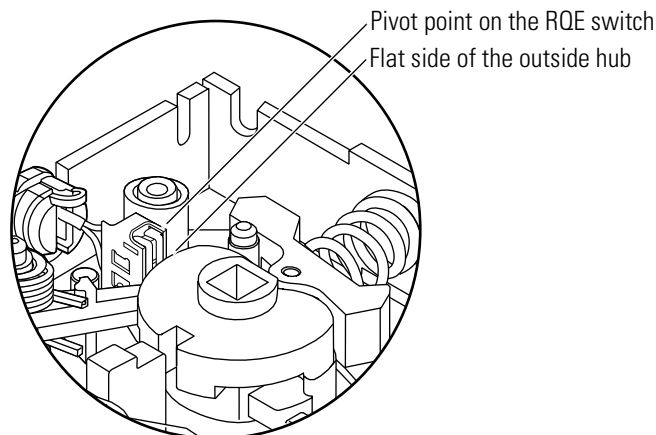

Figure 4.16 RQE switch and hub orientation (close-up)
4. Make sure that the RQE switch components have the correct orientation. When installed, the pivot point on the RQE switch should be opposite the flat side of the outside hub, as shown in Figure 4.16.